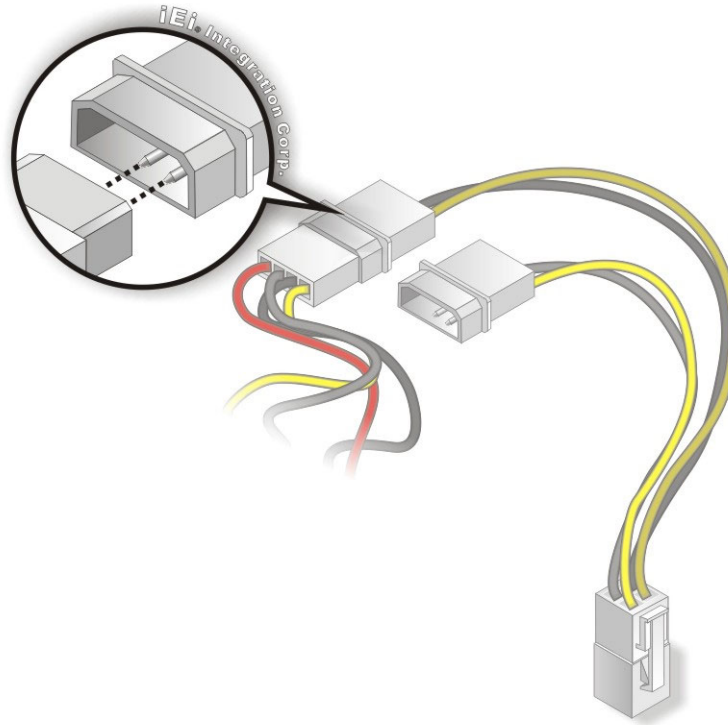

Figure 4-19: Connect Power Cable to Power Supply
Step 3: Connect Power Cable to Power Supply. Connect one of the 4-pin (1x4) Molex type power cable connectors to an AT/ATX power supply. See **Figure 4-19**.